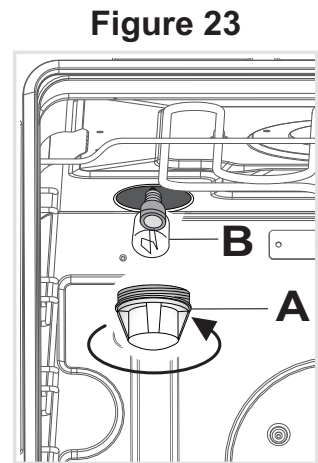

Figure 23
- Remove the protective cover “A” (fig. 23).